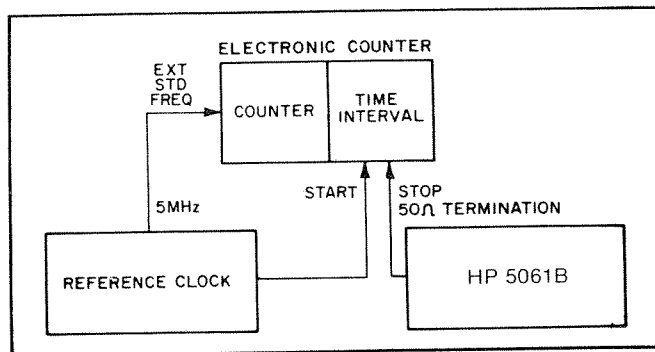

Figure 3-6. Manual Clock Delay Adjust Test Setup
- c. Connect the HP 5061B and other equipment as shown in *Figure 3-6*.
A 50-ohm resistive feedthrough "termination" should be connected at the time interval counter STOP input if the counter is not equipped with a 50 $\Omega$  input impedance. This will prevent ringing in the pulse. (See Figure 3-6.)